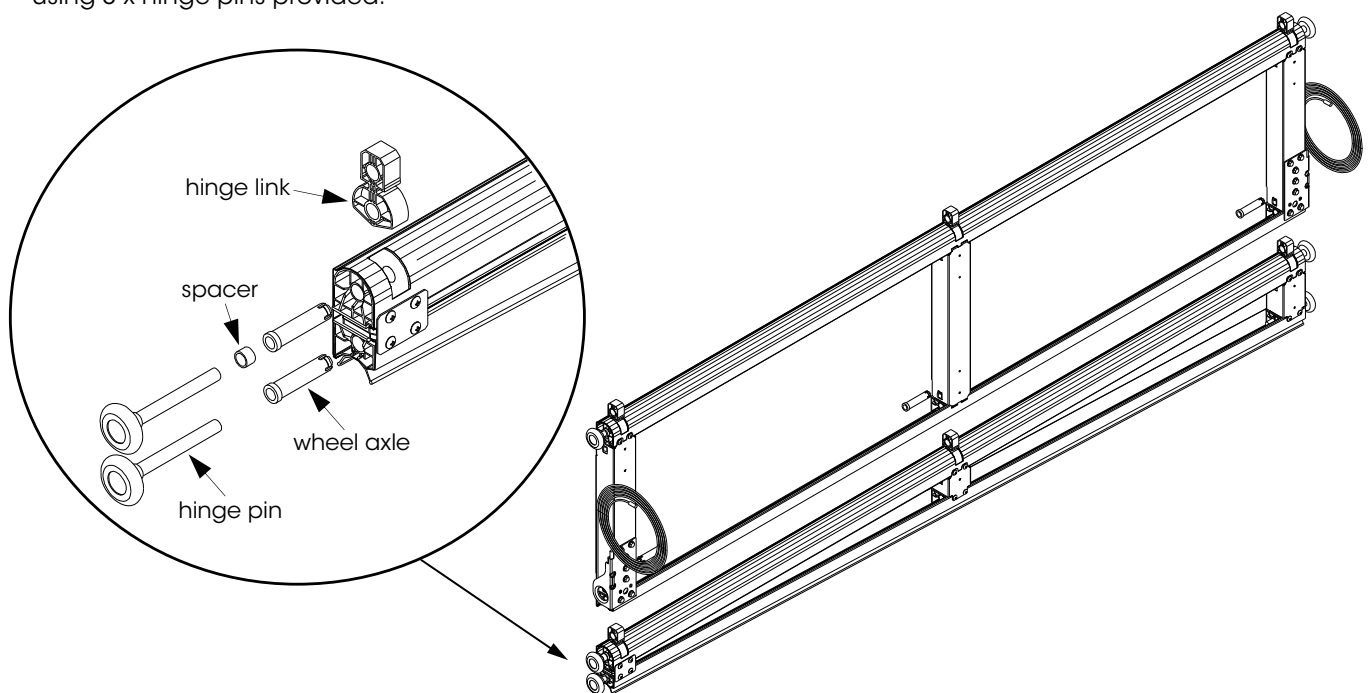

Fig: 5.1.1
- Assemble the bottom panel taking note that there are no wheels or weather strip on the bottom panel, these are both on the taper panel. Fig 5.1.1.
- Assemble the tapered panel as shown in insert of Fig 5.1.1. The 2 spacers required are to be cut 10-12mm long from a white link pin and fitted one to each side as shown.